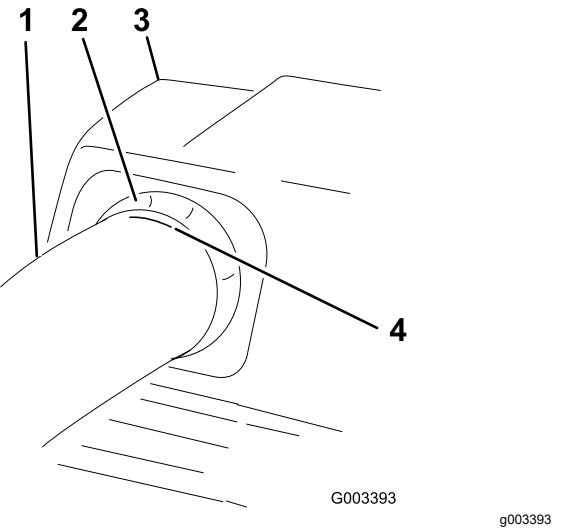

Figure 23
- 6. Once the 19 mm (3/4 inch) measurement has been achieved, mark the upper tube on the outside where the rubber seal protrudes out (Figure 23).
Make sure that the mark from Figure 23 is still in place.